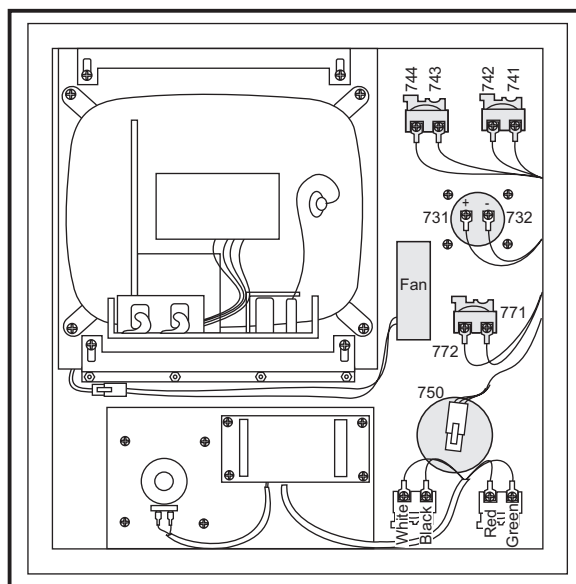

Figure 4.5-1 Interior of control panel (rear).
7. Replace by sliding the new assembly onto the eight bolts (four each on top and bottom). Starting with the bottom right, place the washers and hex nuts on the bolts to hold in place. Refer to Fig. 4.5-1. Once all washers have been attached and nuts have been hand-tightened, tighten down completely with the socket.
3. Disconnect all leads to the switch's connectors. Ensure all leads are properly marked for reconnecting later. Refer to Fig. 4.5-1 for proper locations.